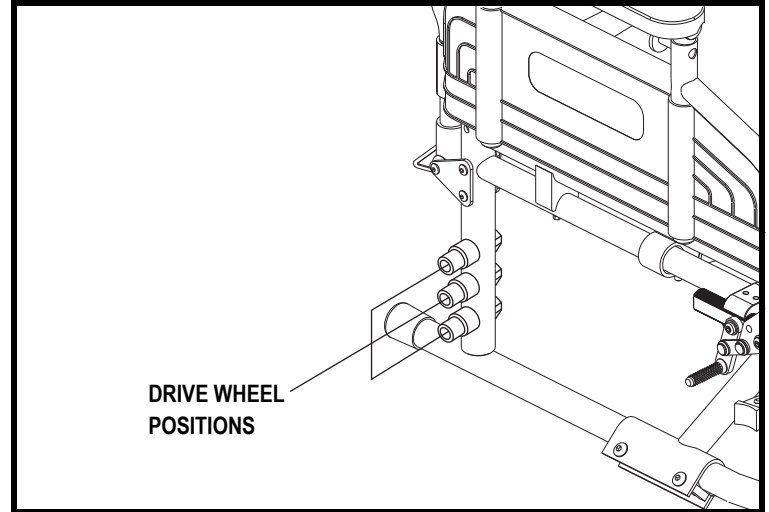

Figure 12. Drive Wheel Position Adjustment
2. Reposition the drive wheel up or down to the desired position. See **figure 12**.